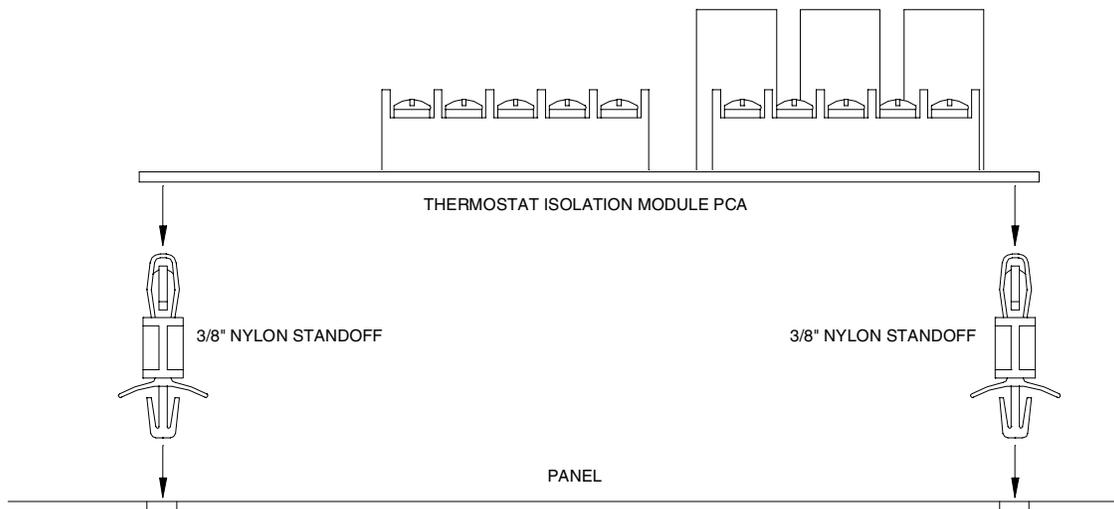

Figure 1 - Mounting the Model 29A00
4. Insert the large end of the 3/8” long nylon standoff into each of the holes drilled as shown in Figure 1.